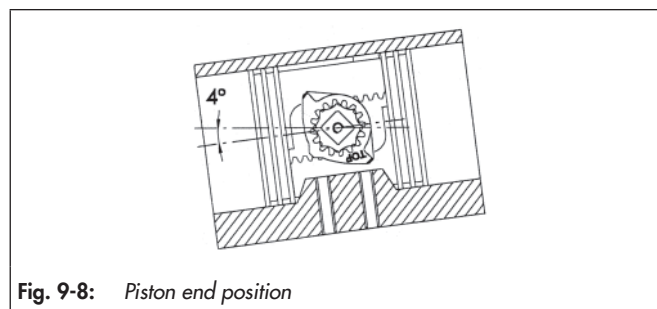

Fig. 9-8: Piston end position
- Check that the pistons in the end position turn the shaft 4° over the middle line (0°), see Fig. 9-8.